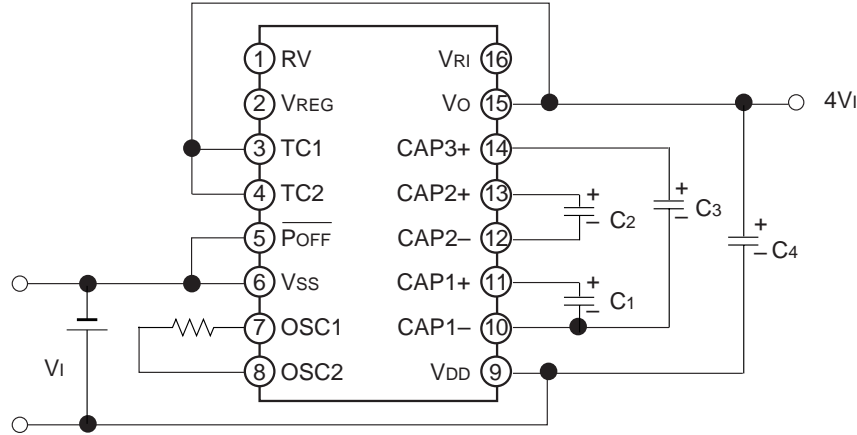
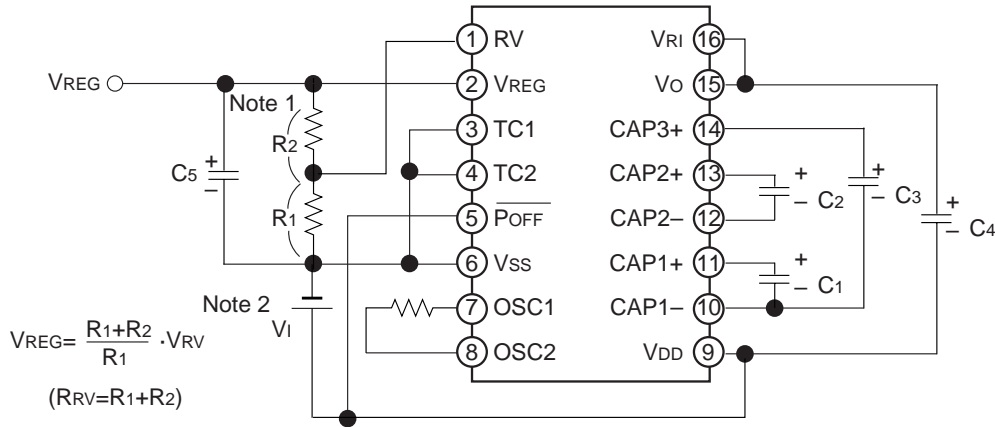
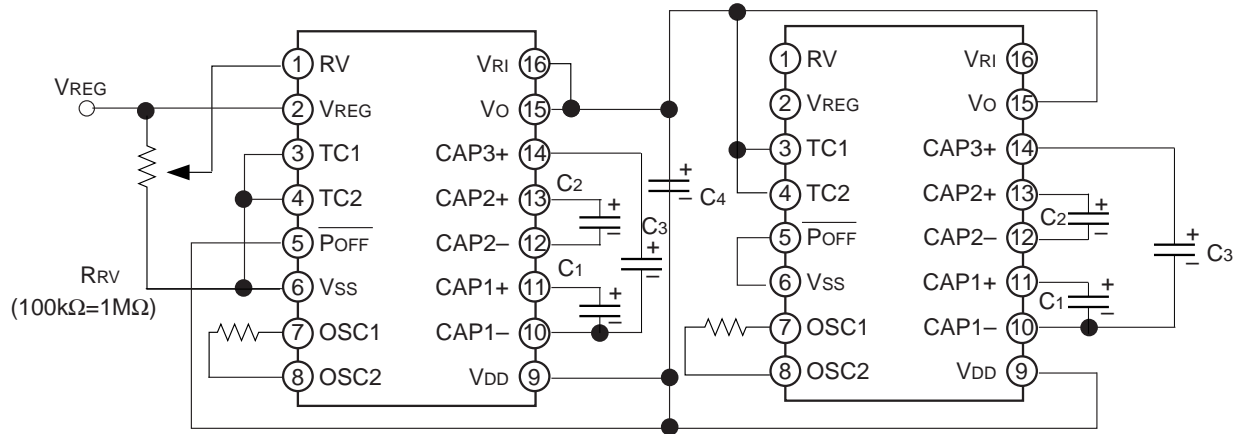
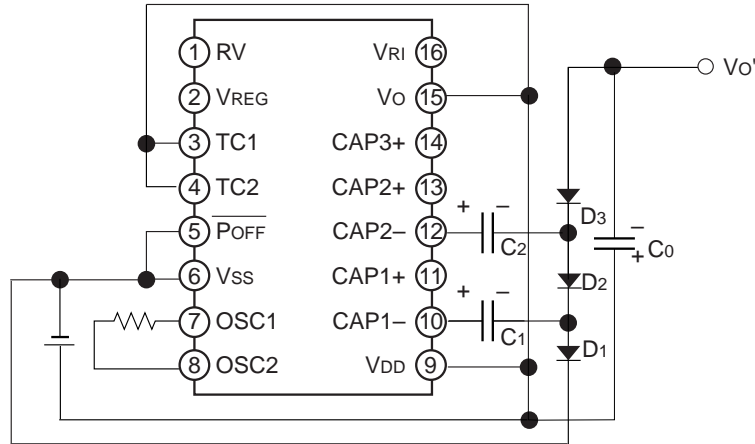

Figure 8-1 4 times step-up circuit
Figure 8-2 Operation of 4 Times Step-up + Stabilization Circuit (Temperature Gradient CT1 is selected.)
Figure 8.3 Parallel Connection
Figure 8.6 Negative Voltage Conversion (Example of 3 times step-up circuit)
Figure 8.1 shows the connection for getting 4 times step-up output of an input voltage by operating the step-up circuit only. In case of 3 times step-up, the capacitor C3 is removed and CAP3+ (Pin No. 14) is short-circuited to Vo (Pin No. 15), and 3 times step-up voltage is obtained from Vo(CAP3+). In case of 2 times step-up, the capacitor C2 is also removed and CAP2+ (Pin No. 13) is short-circuited to Vo (Pin No. 15), and 2 times step-up voltage (10V) is obtained from Vo (CAP2+).
Figure 8-2 shows an application example for stabilizing step-up outputs obtained in 8-(1) through the stabilization circuit and for providing temperature gradient to VREG output by means of the temperature gradient selection circuit. In this application example, both outputs from Vo and VREG can be indicated at the same time. Also, operation of 3 times step-up + stabilization circuit is possible by using the 3 times step-up operation mentioned in 8-(1), and operation of 2 times step-up + stabilization circuit is possible by using the 2 times step-up operation.
It is possible to make the output impedance  $R_O$  small when several pieces of the circuit shown in Figure 8.1 are connected. Parallel connection of  $n$  circuits reduces  $R_O$  to  $1/n$  approximately. One piece of the smoothing capacitor  $C_4$  can be commonly used in the same way. To get stabilized outputs after parallel connection, include 1 pieces of the circuit shown in Figure 8.2 in the parallel connection of  $n$  circuits as shown in Figure 8.3.
S1F76640 can boost input voltage to negative power on the negative potential side by using the circuit shown in Figure 8.6. (In case of 3 times step-up, remove the capacitor C3 and the diode D4 and short-circuit the both ends of D4. In case of 2 times step-up, remove the capacitor C2 and the diode D3 and short-circuit the both ends of D3.) But the output voltage drops by the forward voltage  $V_F$  of the diode. When GND is 0V,  $V_{DD}$  is 5V and  $V_F$  is 0.6V as shown in Figure 8.6 for example,  $V_O$  is calculated as follows:  $V_O = -15V - 4 \times 0.6V = -12.6V$  (In case of 3 times step-up,  $V_O$  is calculated to  $-10V - 3 \times 0.6V = -8.2V$ , and in case of 2 times step-up,  $V_O$  is calculated to  $-5V - 2 \times 0.6V = -3.8V$ .)
When the 3 times step-up operation shown in Figure 8.1 and the positive voltage conversion in Figure 8.6 are combined, the circuit shown in Figure 8.7 can be formed and 20V and  $-12.6V$  can be obtained from the input 5V. However, the output impedance is higher than in case of connection of either one only (the negative voltage conversion or the positive voltage conversion).